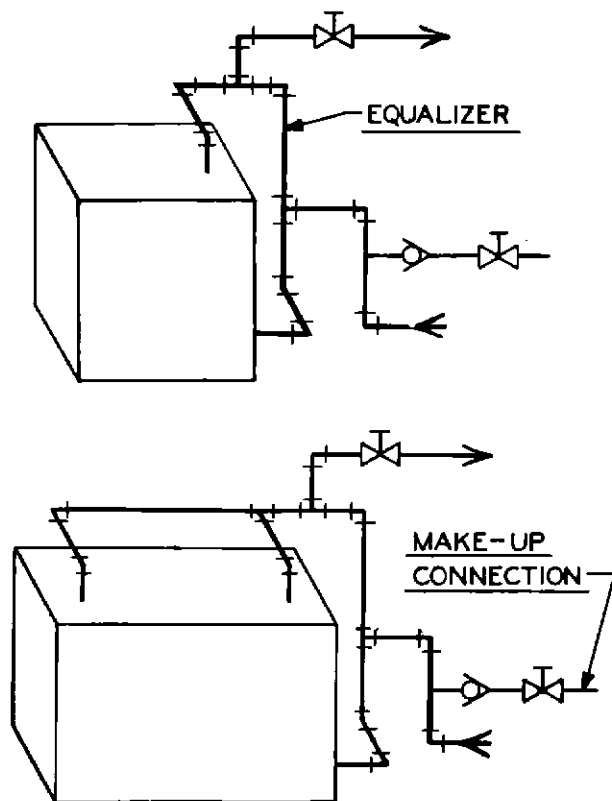

Figure 3
- 1—See Figures 3 and 4 for suggested piping to the boiler.